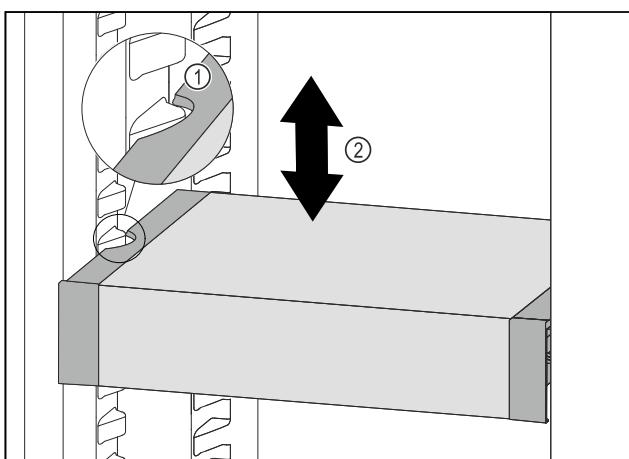

Fig. 116
- Pull VarioSafe forwards until the recesses in the side of the VarioSafe are at the level of the support rib in the refrigerator compartment. *Fig. 116 (1)*
- Move VarioSafe up or down in the refrigerator compartment until the desired height is reached. *Fig. 116 (2)*